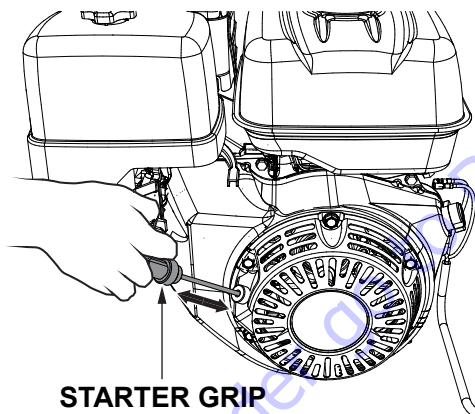

Figure 39. Starter Grip
6. Slowly pull the starter grip (Figure 39) until resistance is felt, then pull briskly and smoothly to start the engine. Gently return the starter grip to its original position.